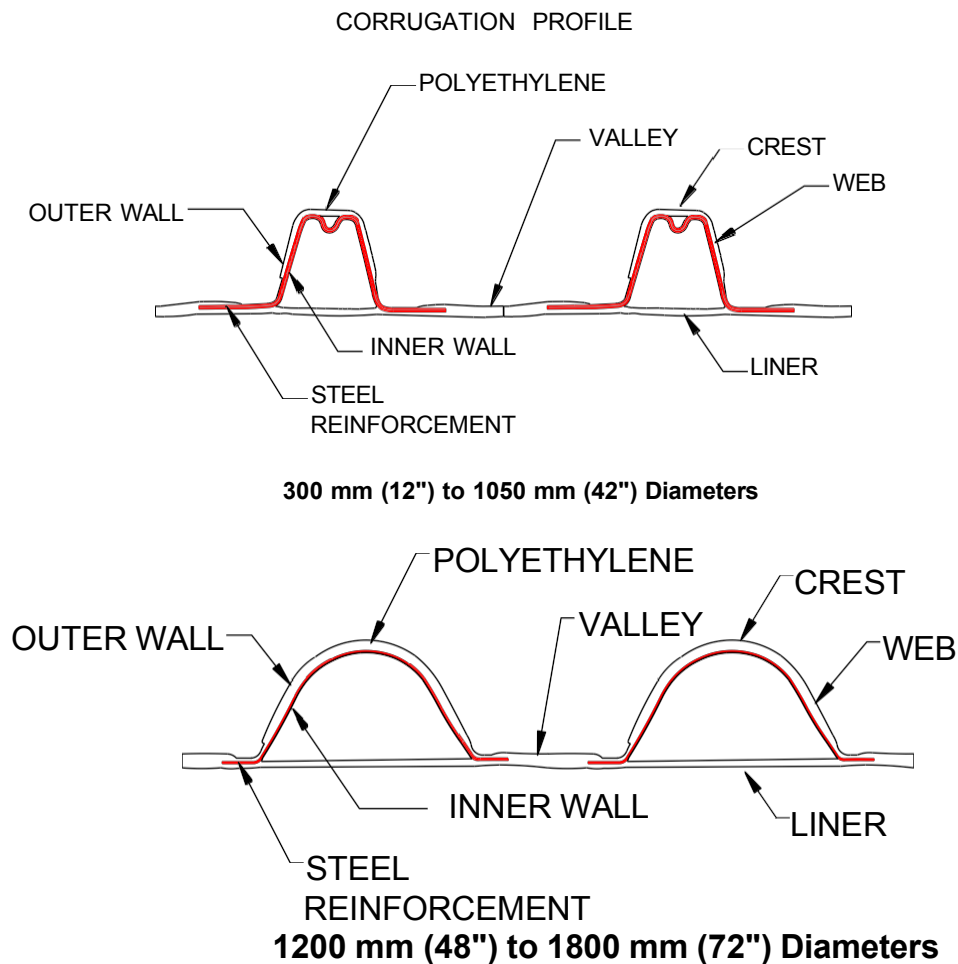

Figure 1—Cross Section of Corrugated Profile
- 3.2.8. *steel-reinforced polyethylene corrugated pipe*—Polyethylene pipe with a corrugated profile containing reinforcing steel (see Figure 1).